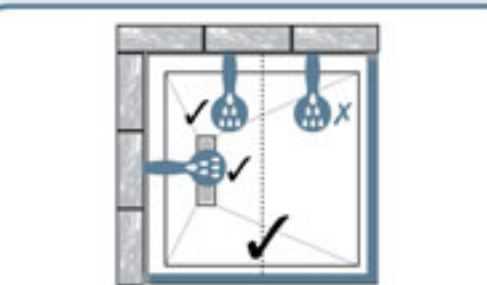

Fig 4 - Square - Full Enclosure Only
- Always fit full enclosures to 900x900 square and 900 quadrant trays - See Fig 4/8